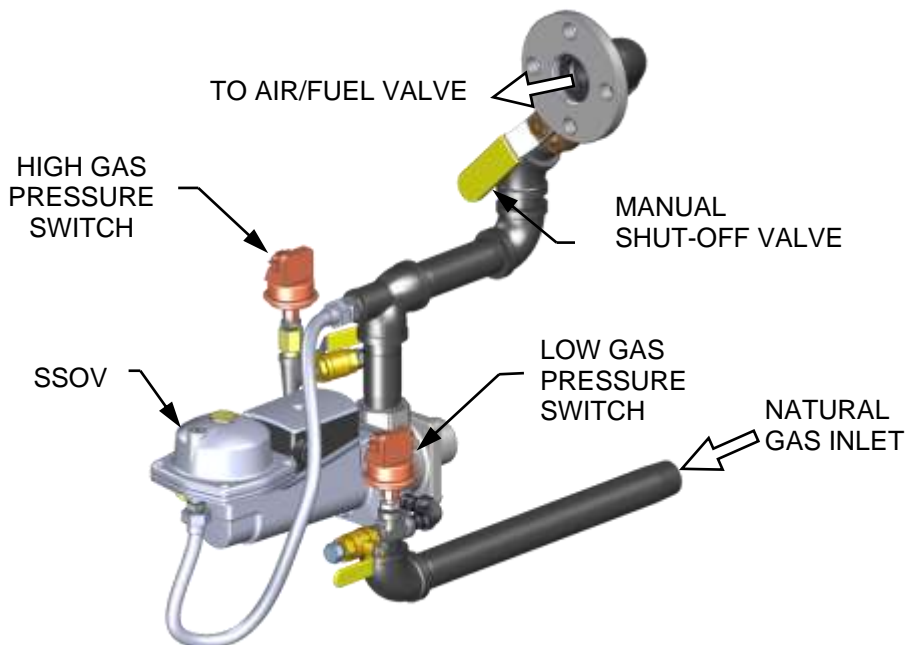

Figure 3-1a: BMK750 & 1000 SSOV Location (P/N 22140-1 shown)
2. The unit checks all five pre-purge safety switches listed at the beginning of this section. The Edge [i] Controller's ignition sequence screen walks you through the ignition screens and demonstrates (or highlights) which switches are not met. SSOV locations are shown in Figure 3-1a through 3-1e.